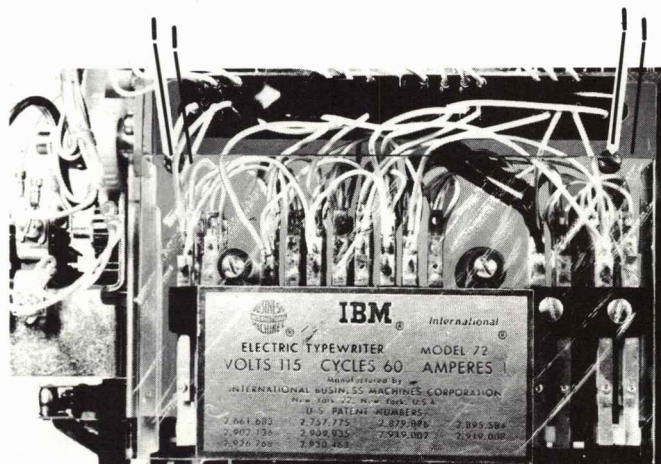

FIGURE 31. Selector Bail Removal
- \* 1. Remove the two screws (#1, Figure 31) that hold the contact plate to the frame. Remove the contact assembly, holding it to the front with a rubber band.